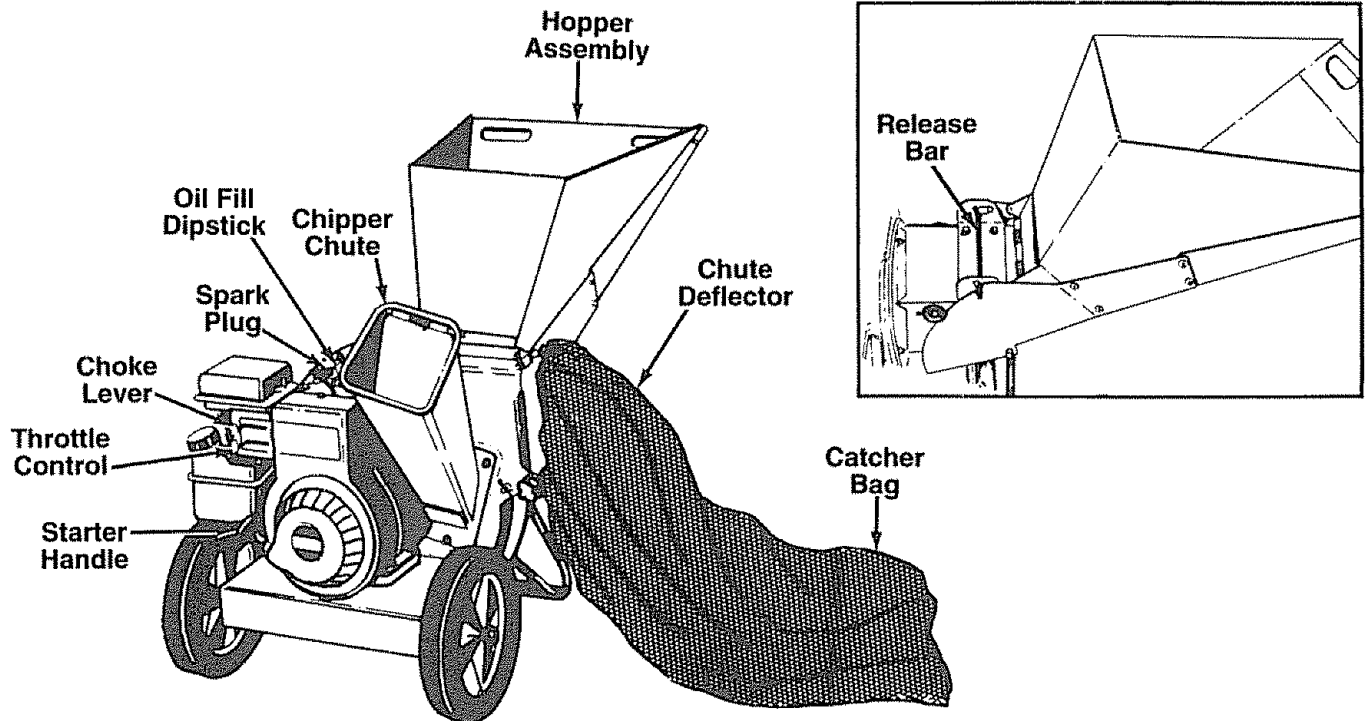

FIGURE 6.
OPERATING CONTROLS (See figure 6)
- Move throttle control lever to OFF position. See figure 6.